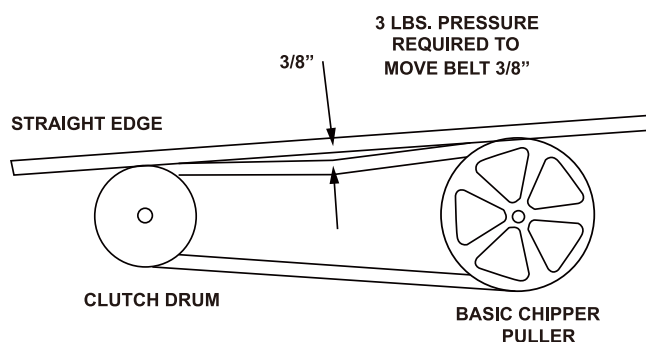

fig.1
The belt on your chipper should deflect 3/8" under three pounds of pressure as shown in fig. 1 below. If it doesn't, adjust per the following directions.
3. Tighten or loosen the nut until you have the correct tension as shown in fig. 1.